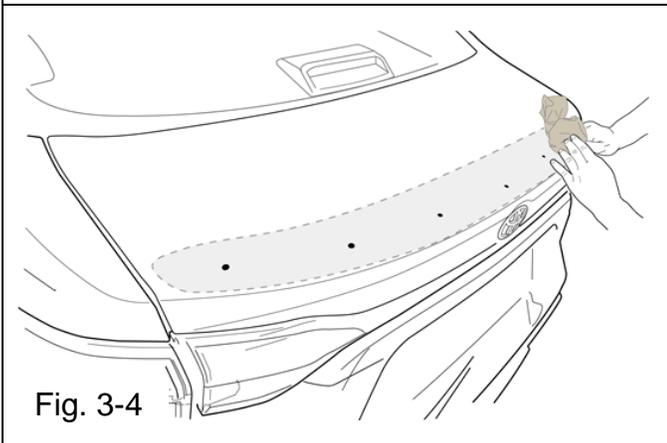

Fig. 3-4
- b) Using surface cleaner, remove any adhesive residue and thoroughly clean the entire surface of any dirt and debris to maximum adhesion for the new spoiler. Wipe dry. (Fig. 3-4).